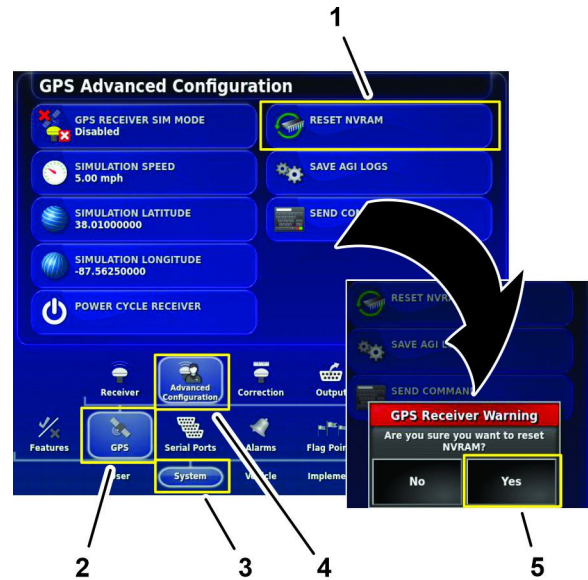

Figure 209
1. In the setup screen, press the SYSTEM icon, GPS icon, and ADVANCED CONFIGURATION icon (Figure 209).
2. In the GPS Advanced Configuration screen, press the RESET NVRAM icon (Figure 209).
3. In the GPS receive warning dialog box, press the YES icon (Figure 209).